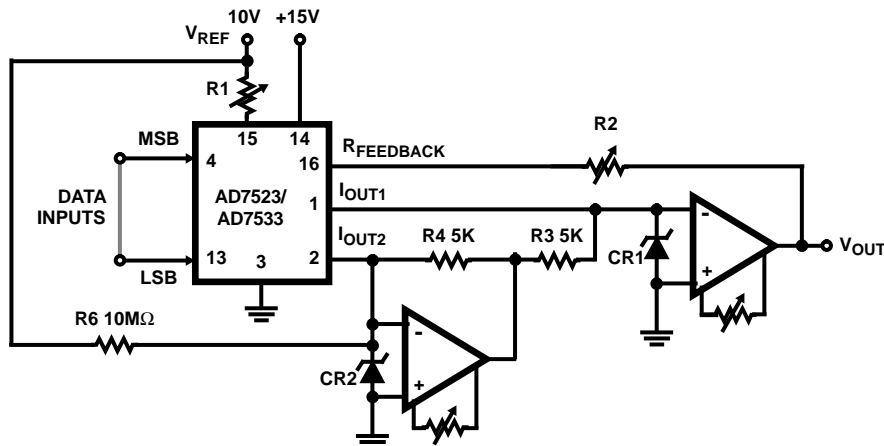

FIGURE 3. BIPOLAR OPERATION (4-QUADRANT MULTIPLICATION)
The circuit configuration for operating the AD7523 in the bipolar mode is given in Figure 3. Using offset binary digital input codes and positive and negative reference voltage values, Four-Quadrant multiplication can be realized. The "Digital Input Code/Analog Output Value" table for bipolar mode is given in Table 3.)
I_{OUT1} and I_{OUT2} bus currents are complements of one another. The current amplifier at I_{OUT2} changes the polarity of I_{OUT2} current and the transconductance amplifier at I_{OUT} output sums the two currents. This configuration doubles the output range. The difference current resulting at zero offset binary code, (MSB = "Logic 1", all other bits = "Logic 0"), is corrected by using an external resistor, (10M Ω), from V_{REF} to I_{OUT2} (Figure 3).
The circuit configuration for operating the AD7533 in the bipolar mode is given in Figure 3. Using offset binary digital input codes and positive and negative reference voltage values, 4-Quadrant multiplication can be realized. The "Digital Input Code/Analog Output Value" table for bipolar mode is given in Table 4.
3. Nominal LSB magnitude for the circuit of Figure 3 is given by